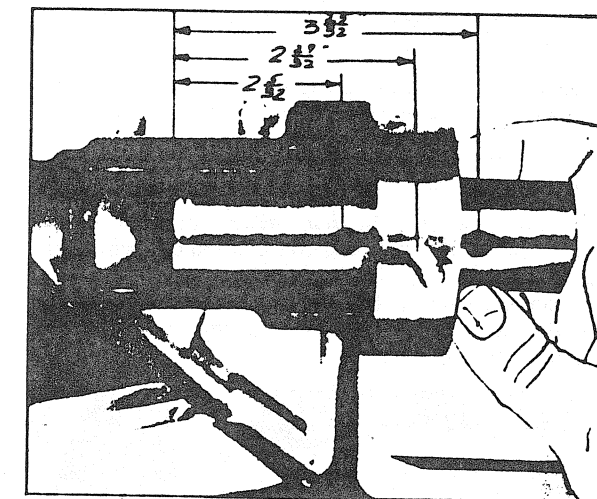

FIGURE 27
- Adjust tool to position #2 and insert the second seal, lip towards the engine side then press in the seal evenly until the tool adjustment ring becomes flush with the outer surface of bearing housing (fig. 27).